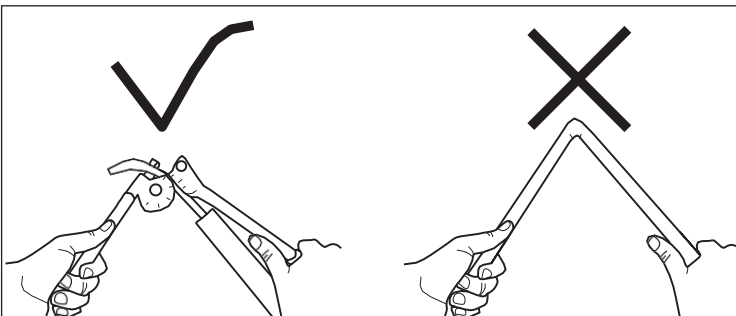

Figure 6. Gently bend the pipes with a pipe bender.
- All pipe bends should be as gentle as possible. Use a pipe bender for bending (see Figure 6). The bending radius should be 1 1/4" (30mm) or larger.